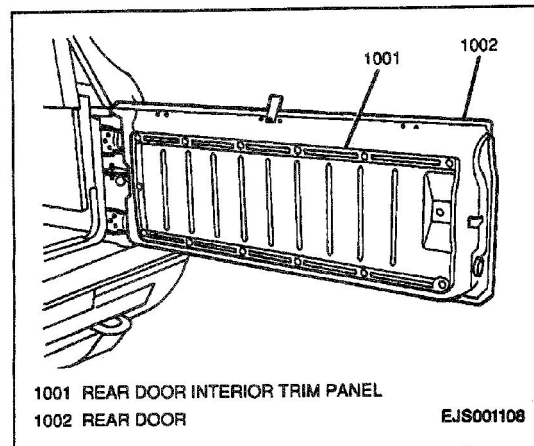

Figure 1—Rear Door Interior Trim Panel
**Figures 1 through 5**
4. Open rear door and remove fourteen plastic retaining clips and rear door interior trim panel from rear door (Figure 1).